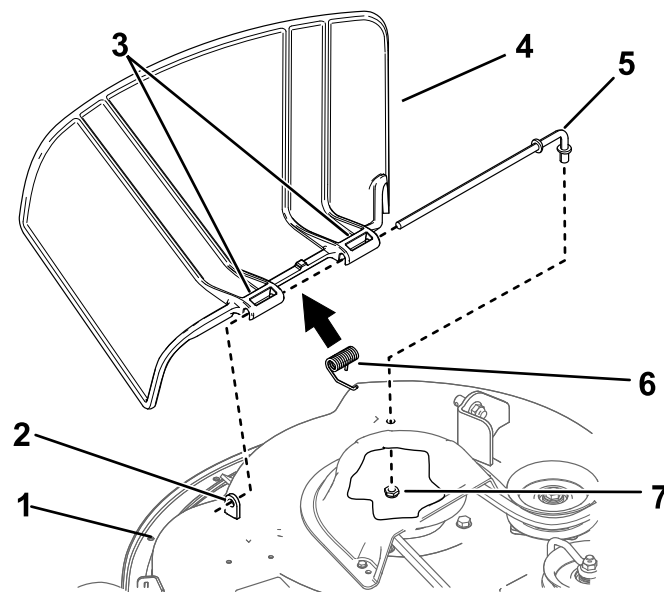

Figure 67
1. Remove the nut (3/8 inch) from the rod under the mower (Figure 67).
2. Slide the rod out of the short stand-off, spring, and grass deflector (Figure 67).
4. Install the new grass deflector (Figure 67).
7. Slide the rod through the second grass-deflector pivot (Figure 67).
9. Secure the rear end of the rod into the mower with a nut (3/8 inch) as shown in Figure 67.